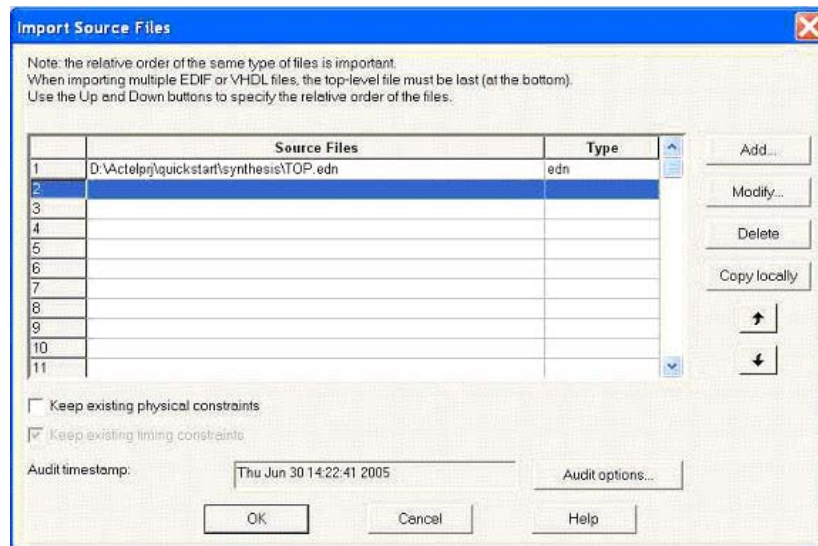

Figure 7-33 • Import Designer Source Files
8. Another way to assign pin location is to import the Physical Design Constraint (PDC) file as a source file for Compilation. From the Designer menu, select **File > Import Source File** (Figure 7-33) .